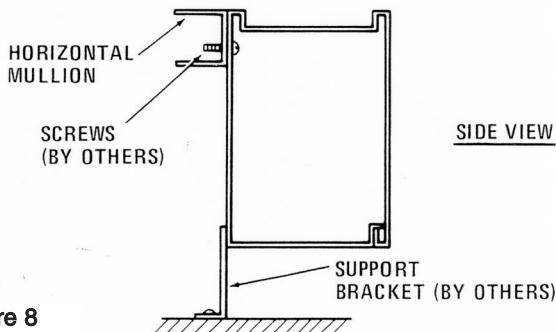

Figure 8
2. On horizontal mullion installation, install support brackets as shown in Figure 8.